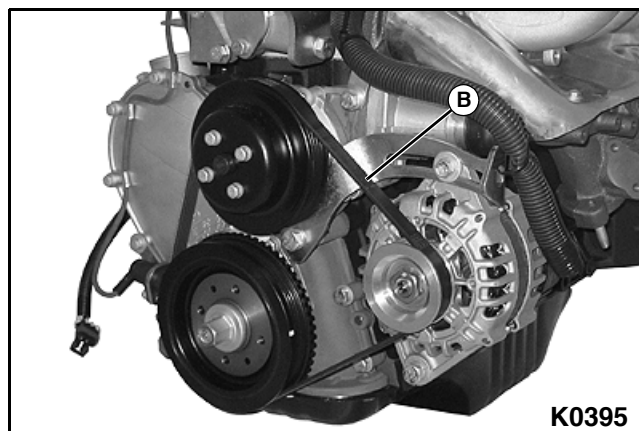

Figure 5-16
5. The drive belt tension should be checked at the midpoint (B) between the pulleys. **See Figure 5-16.**